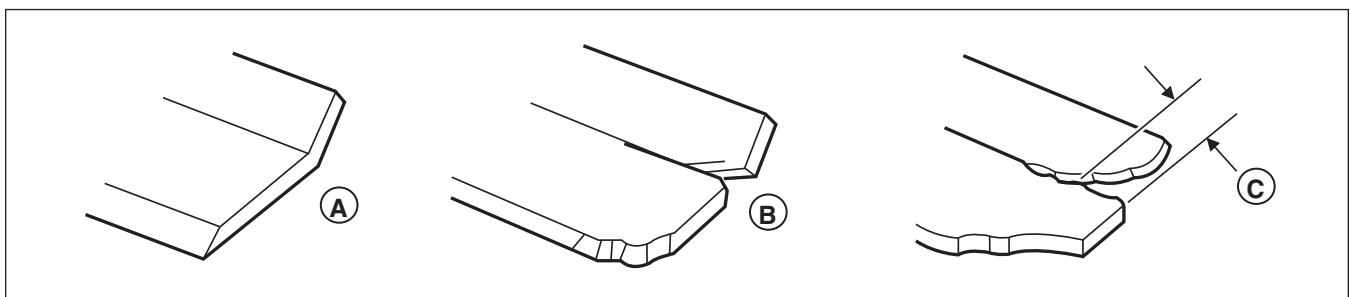

Figure 27. inspecting the Mower Blade Air Lifts
- Has more than .5" (12,7 mm) of the mower blade metal removed from previous sharpening or wear (**D**, **Figure 27**).
- The air lifts are excessively eroded (**B & C**, **Figure 27**) and the notch (**C**) is .25" (6,35 mm) deep or greater.